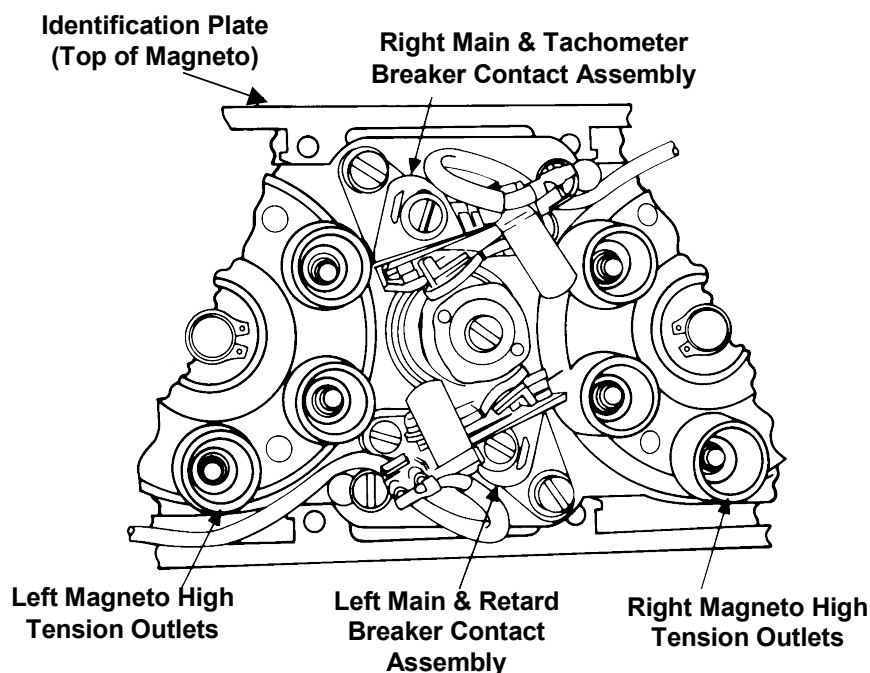

Figure 9-10. Cam End View of Magneto
2. Install connector strip (20), new distributor block screws (18), and 0.396 in. O. D. flat washer (31) at each side of the distributor block. For D-2000 Series Magnetos, these are the only screws to secure the distributor block. Tighten, but do not torque the screws (18) at this time.
3. Install new contact assemblies (11, 12 & 13) on top of connector strips (20). Loosely secure contact assemblies in position with new screws (18), lock washers (9) and flat washers (10). The flat washer (10) is used only at the elongated hole side of the contact assemblies.
4. On magnetos using main contact assemblies only, the contact assemblies and their positions on the distributor block are interchangeable. On magnetos using a stacked main and retard contact assembly (13), install the assembly on the side of the magneto opposite the identification plate (Figure 9-10). On magnetos using a stacked main and tachometer contact assembly (Figure 1) (12), install the assembly on the side of the distributor block near the identification plate. The silver-cadmium tachometer contacts may be readily identified by their obviously smaller diameter than the main contacts.